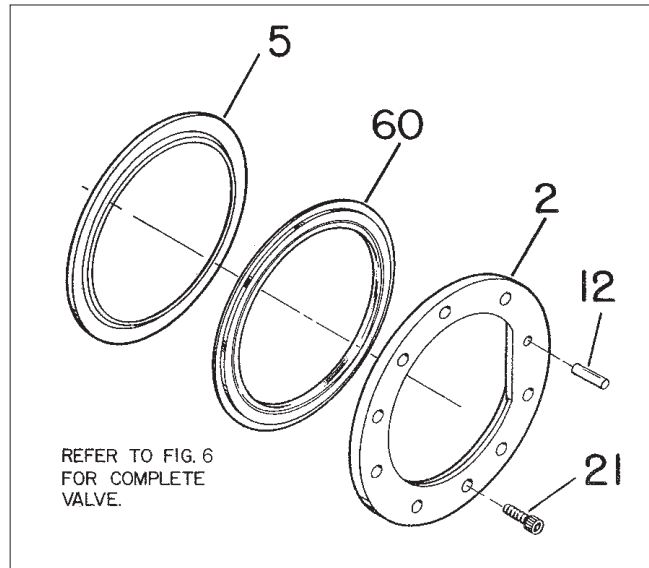

Figure 11.
2. Remove the insert screws (21) and the insert (2), see (Fig. 11). If the insert does not lift out easily, tap it out from the shaft side using a wooden or plastic rod and a hammer. Don't strike the valve directly with a hammer.
3. Remove the metal sealing ring (60) and the soft seat (5). Discard the soft seat.
10. Verify that the disc is in the level position. Install new soft seat, sealing ring, and insert. See (Fig. 11). **NOTE:** A gasket is also required on 3", 4", and 12" sizes, see step #11). Install the insert screws, and tighten them uniformly. Check the gap between sealing ring and disc using feeler gages. The gap must not vary more than .008 when checked at six spots equally spaced on disc.